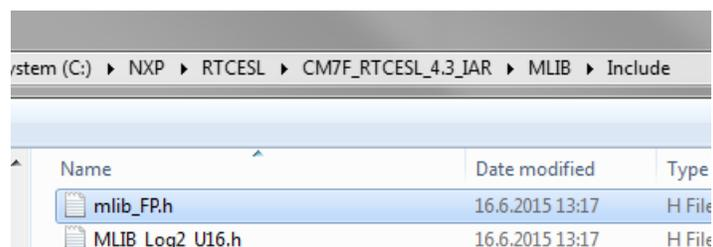

Figure 1-39. Add Files dialog
5. Navigate into the library installation folder C:\NXP\RTCESL\CM7F_RTCESL_4.5_IAR\MLIB\Include, and select the *mlib_FP.h* file. (If the file does not appear, set the file-type filter to Source Files.) Click Open. See Figure 1-39.